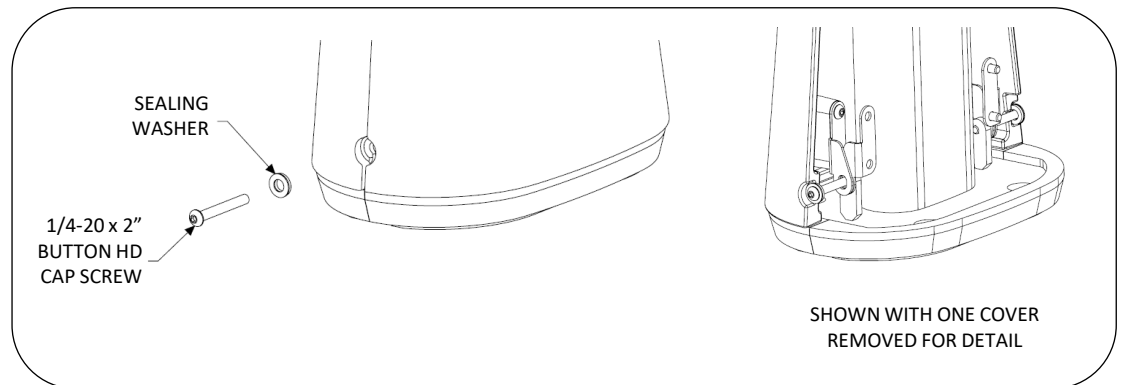

FIG. 7 – INSTALL COVER HARDWARE
15. Install hardware as shown in Fig. 7 to secure halves together.